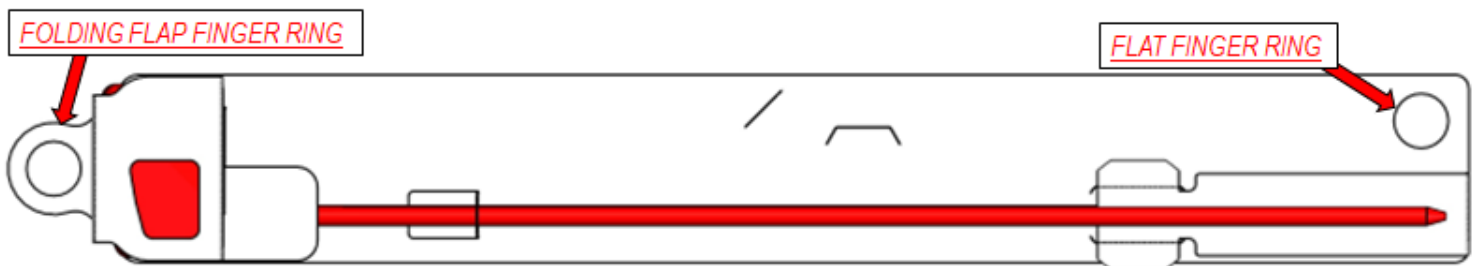

Figure 5: Finished Assembly
5. Fold up Folding Flap Finger Ring (figure 5).
- 1st Fold up Folding Flap Finger Ring (figure 5). Figure 5 shows the Folding Flap Finger Ring in the product removal position.